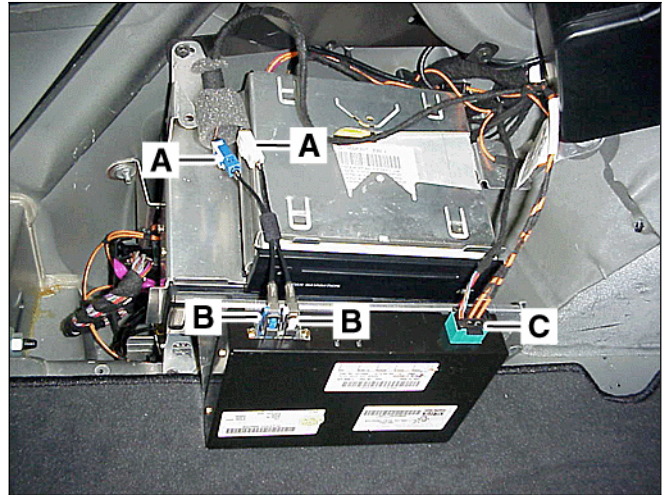

Figure 13
12. Place the SDAR control module/bracket assembly, with the connector receptacles facing upward, near the point of installation (Figure 13).
13. Connect the straight blue and white connectors of the antenna leads adapter harness to the preinstalled antenna leads of like color (A, Figure 13) and fold down the foam sleeve over the coupled connectors.
14. Connect the 90° angled blue and white connectors of the antenna leads adapter harness to the like color connector receptacles of the SDAR control module (B, Figure 13).
15. Connect the power supply/MOST connector to the SDAR control module (C, Figure 13).